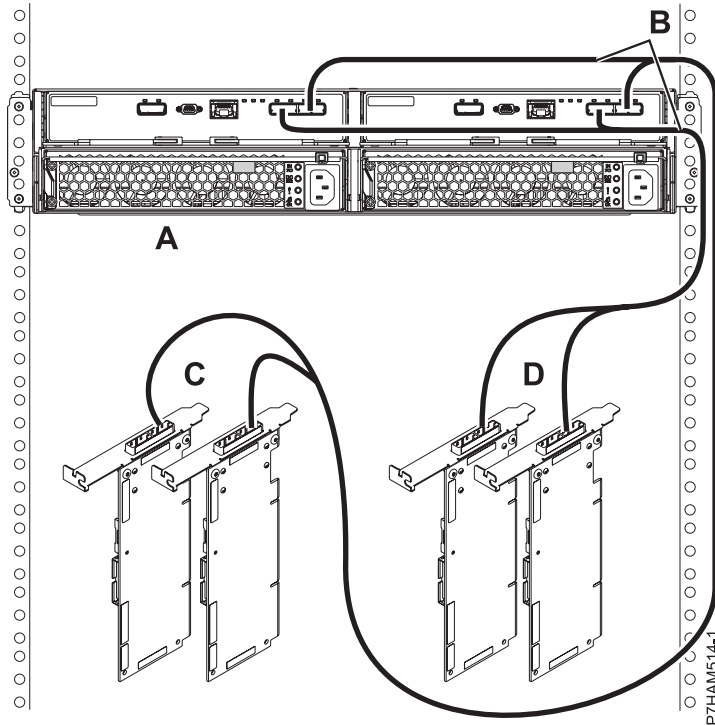

Figure 17. Mode 2 connection of one 5887 disk drive enclosure by using X cables to two SAS adapter pairs
18. Perform the mode 2 connection of one enclosure (A) by using X cables (B) to two SAS adapter pairs. See Figure 17 on page 18.